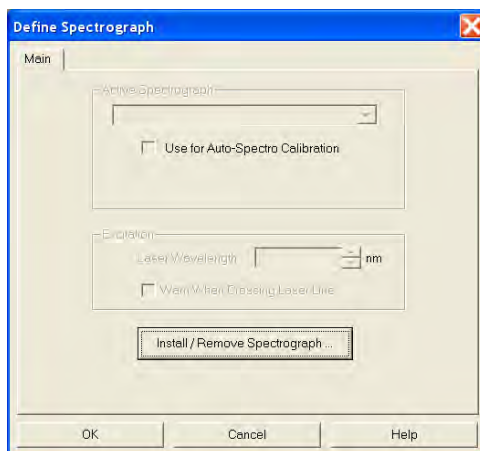

Figure 3-6. Define Spectrograph dialog
2. On the **Define Spectrograph** dialog (Figure 3-6), click on the **Install/Remove Spectrograph** button.